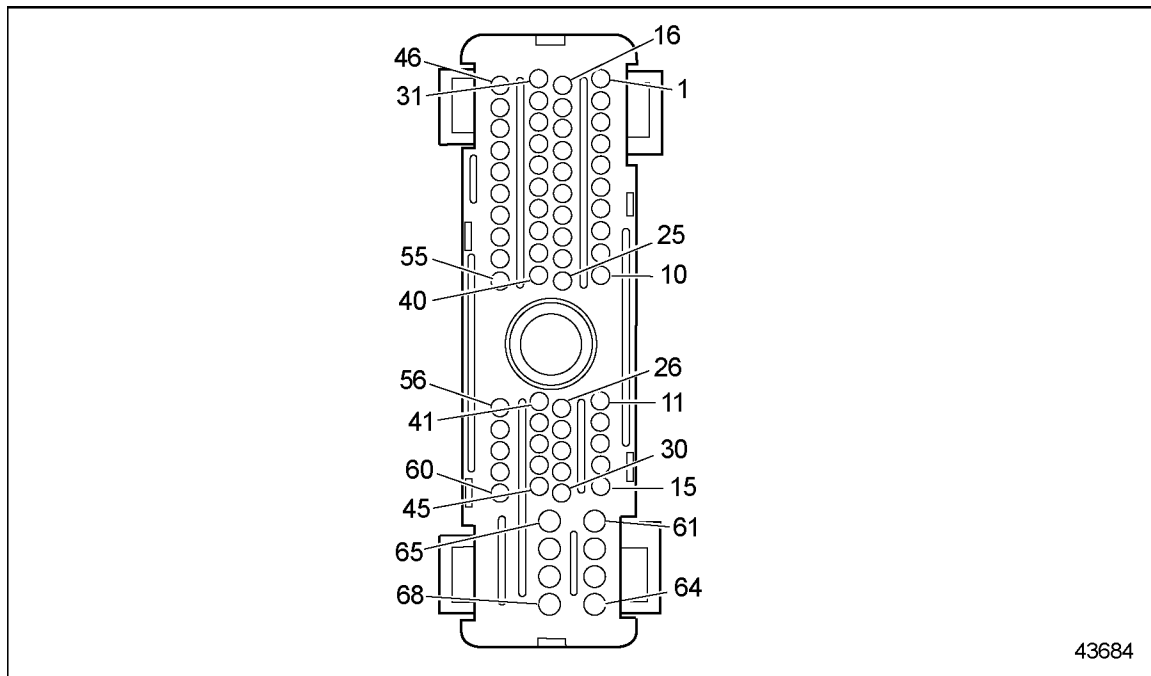

Figure 20-4 Electronic Control Unit/Vehicle Harness Connector
4. Check terminals at the ECM/ECU vehicle harness connector (both the ECM/ECU and harness side) for bent, corroded, and unseated pins or sockets. See Figure 20-4.
3. Check terminals at the ECM/ECU vehicle harness connector (both the ECM/ECU and harness side) for bent, corroded, and unseated pins or sockets. See Figure 20-4.